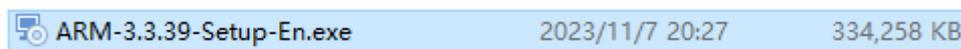

Figure 2-1 Prepare Setup Package
Step 1 Download an ARM setup package ARM-3.X.XX-Setup-En from the official website of QKM, as shown in Figure 2-1.